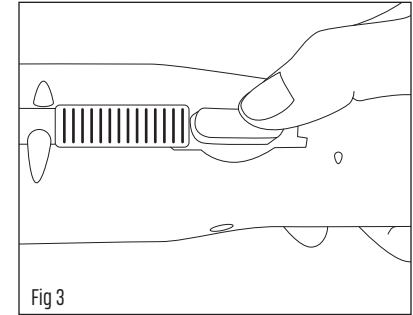

Fig 3
5. Immediately after damp swabbing (to prevent wet powder from drying inside of launcher) follow normal procedure of loading CO₂ cartridge into LifeLite™ and dry fire launcher without projectiles. Dry fire launcher until CO₂ is depleted. (Fig 3)